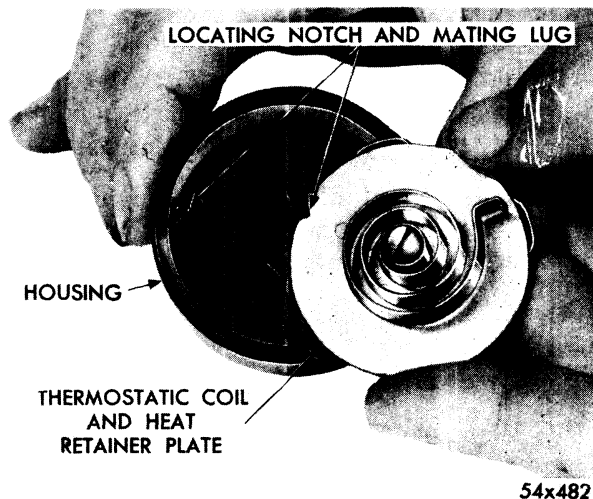

Fig. 13—Installing Heat Retainer Plate
- (2) Clean any dirt, dust, or other foreign material that may be present, from the retainer plate and out of the choke housing.
- (3) When reassembling, match the notch in the plate with the lug in the housing, as shown in Figure 13.
- (4) Install the plate and press down until seated in choke housing. **Be sure the retaining spring in the plate is clear of the notch.**
- (5) Slide the fast idle cam and spring over the choke shaft and down against the choke lever.
- (6) Slide the ends of the spring over the short tang on the lever.
- (7) Slide the choke shaft and piston into the air horn. (Be sure that the groove around the choke piston is perfectly clean.)
- (8) Turn the lever counter-clockwise until the choke piston clears the choke cylinder.
- (9) At the same time, guide the fast idle cam and spring over the shoulder of the shaft opening in the air horn.
- (10) Push in slightly on the end of choke shaft to seat the fast idle cam; then the piston will drop into its cylinder.
- (11) Slide the choke valve into position and start new screws. Holding the valve in the closed position, tap gently with screwdriver to center and locate the valve. Tighten screws securely, then stake by squeezing with pliers.
- (12) Hold the air horn in an upright position and close the choke valve. The valve should open freely of its own weight. **Do not lubricate any of the choke operating parts.**
- (13) Slide the fast idle link up through the slot in the air horn with the hook portion toward the choke piston.